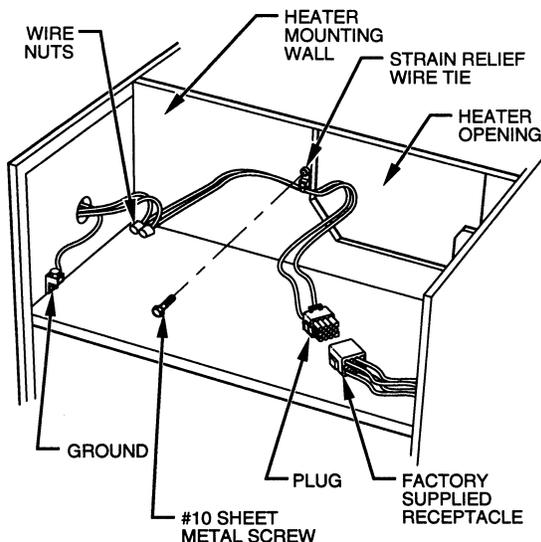

Fig. 1—Typical Power Plug Connections
4. Attach block-off plate over heater opening using the (2) enclosed sheet metal screws.
5. Secure accessory strain relief wire tie to left screw hole on heater mounting wall with 1 No. 10 sheet metal screw. (See **Figure 1**) Wire tie may be moved along wire length, if needed.